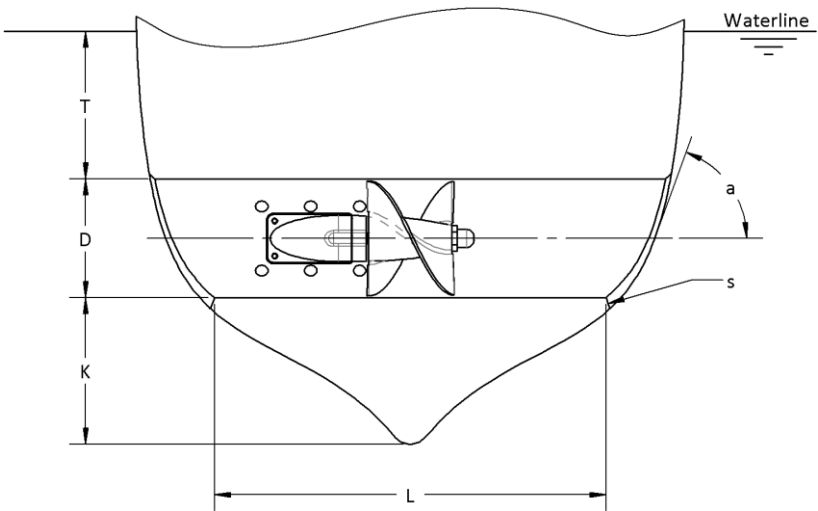

Figure 2 – Thruster tunnel location parameters that affect performance
- The tunnel's length, vertical positioning, and opening shape all greatly affect thruster performance. Refer to Figure 2 on page 9 and accompanying Table 3 for definitions of these parameters and their recommended values.